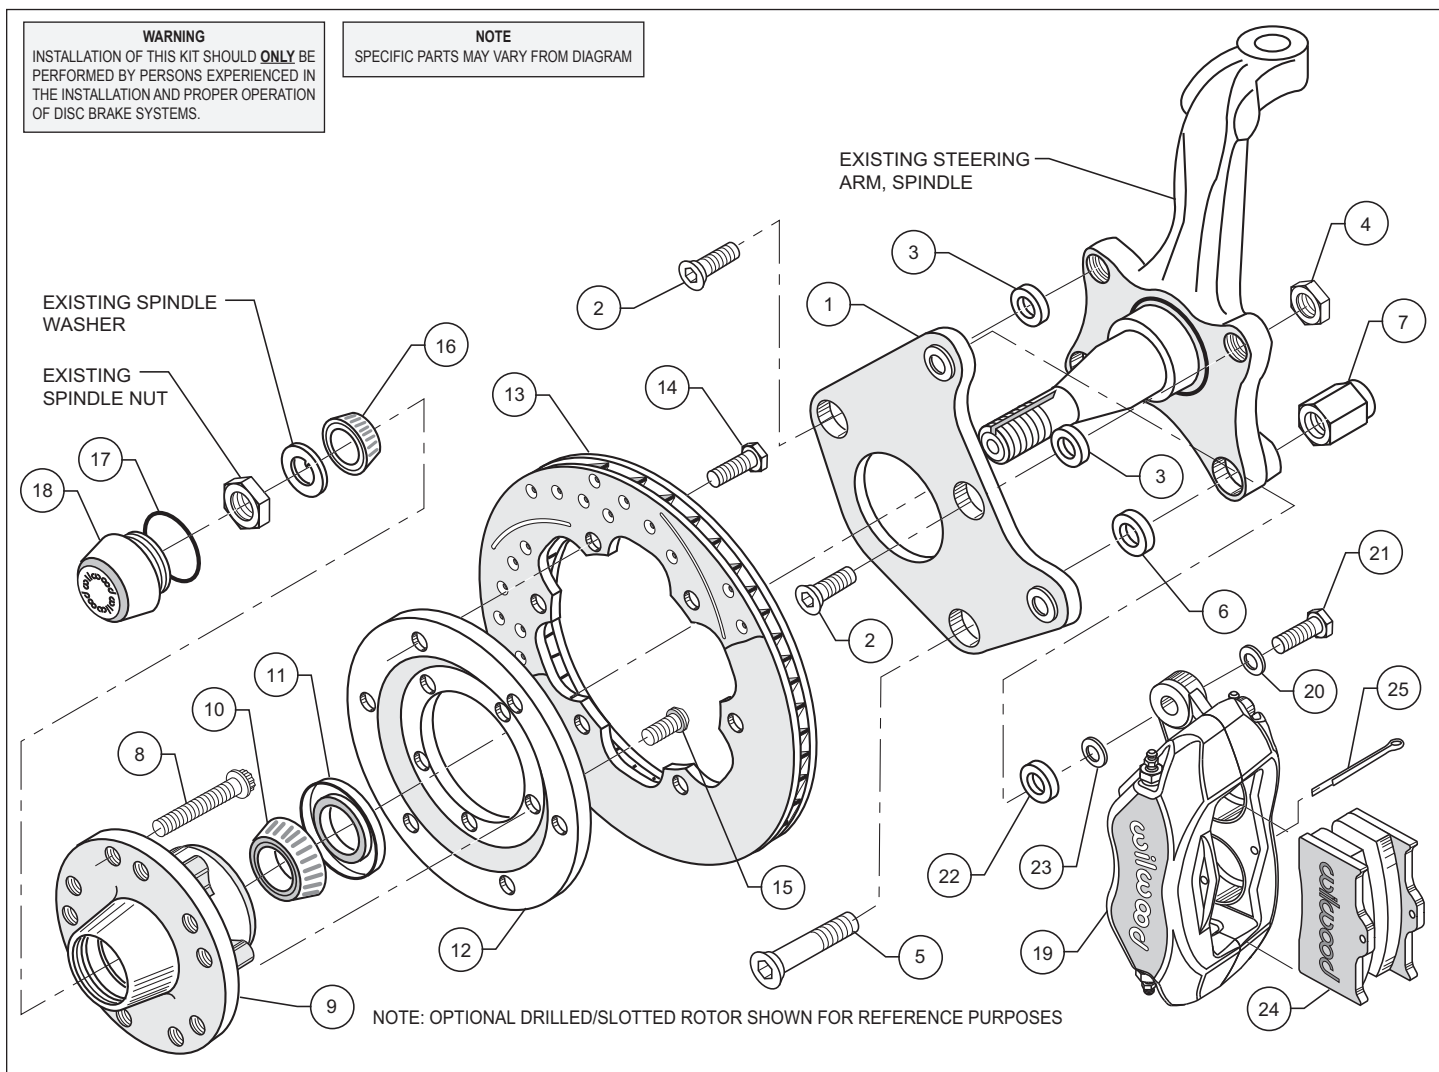

Figure 1. Typical Configuration, Drum Spindle
- Mount the adapter/rotor assembly (12/13) to the hub (9) using bolts (15) (finger tight), as shown in Figure 1. Using an alternating sequence, remove bolts one at a time, apply red *Loctite*® 271 to the threads, and torque to 55 ft-lb.
- Pack the small outer bearing cone (16) with high temperature disc brake bearing grease. Lightly coat the spindle bearing surfaces with bearing grease. Slide the hub/rotor assembly (9 and 13) with outer bearing cone (17) onto the spindle. Secure using existing spindle washer, existing adjusting nut and nut locking device.